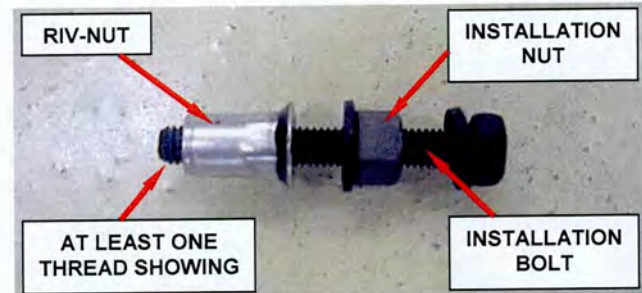

Figure 4 – Riv-Nut Installation
- n. Pre-assemble the new riv-nut by installing the installation nut and the riv-nut onto the installation bolt as shown in Figure 4.